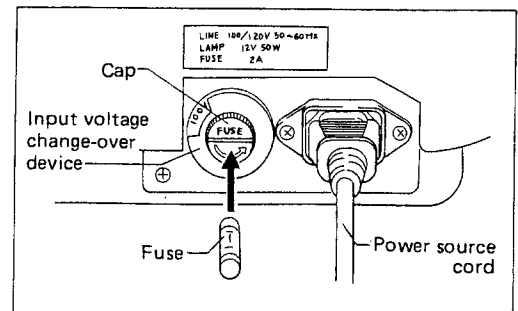

Fig. 3-3
**⑧ Power source cord and fuse (Fig. 3-3)**